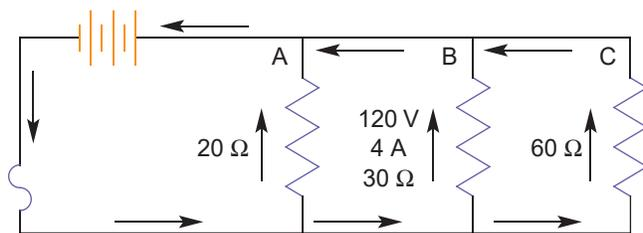

Figure 2-12. Parallel circuits provide numerous alternate routes for the electrons to follow. These routes are called branches.
As you learned earlier, a parallel circuit is an electrical circuit having two or more different conducting pathways. The term parallel, in electricity, does not necessarily mean physically or geometrically parallel, but simply alternate routes. Each of these alternate routes is called a *branch*. Parallel circuits are more commonly used in electrical circuitry for reasons that will become clear as we go on. **Figure 2-12** shows a simple parallel circuit containing three resistors. Arrows indicate the electron flow.
- The voltages across all branches of a parallel circuit are the same, and are equal to the voltage at the source. In Figure 2-12, the voltage in branch B is 120 V. Therefore, the total voltage and the voltage in branches A and C are also 120 V. Mathematically:
- The total current (I_T) is equal to the sum of the currents flowing through each of the branches. For Figure 2-12:
Now use the resistance information from the circuit in Figure 2-12: